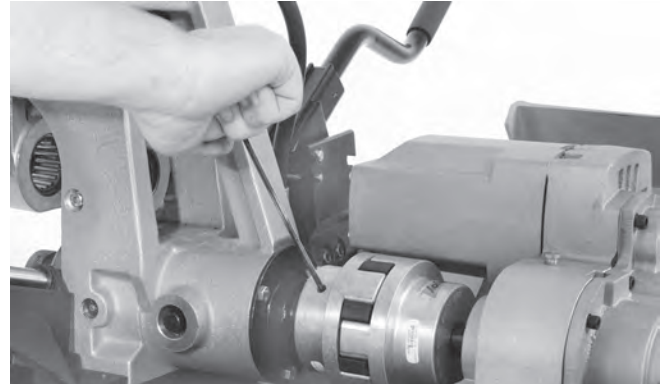

Figure 23 – Loosen the Two Screws on the Transmission Coupling
1. Use 3/16" hex key to loosen the two screws on the front half of the transmission coupling (Figure 23).
3. Use 3/16" hex key to loosen the two screws on the front half of the transmission coupling (*Figure 23*).